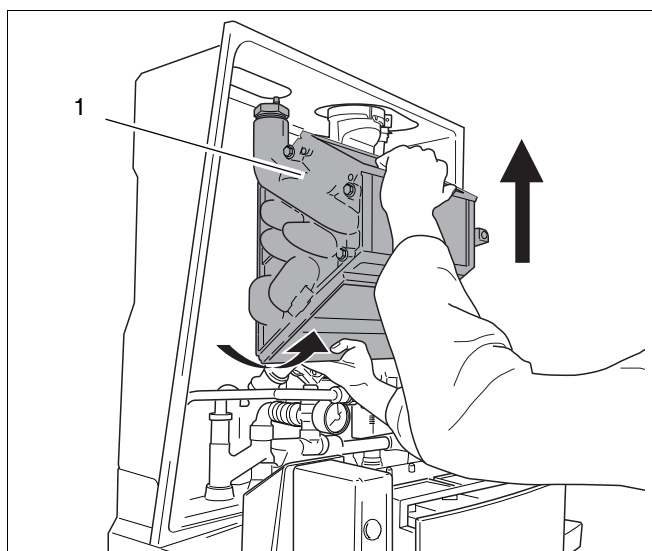

fig. 107 Dismantling the heat exchanger
- Remove the heat exchanger by grabbing its bottom end and pulling forward and then pushing it upwards (see fig. 107, pos. 1).